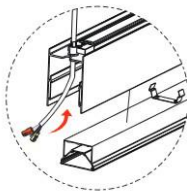

Figure 2
2. Take off LED module and thread the power cord into the cord holder as shown. (Figure 2)